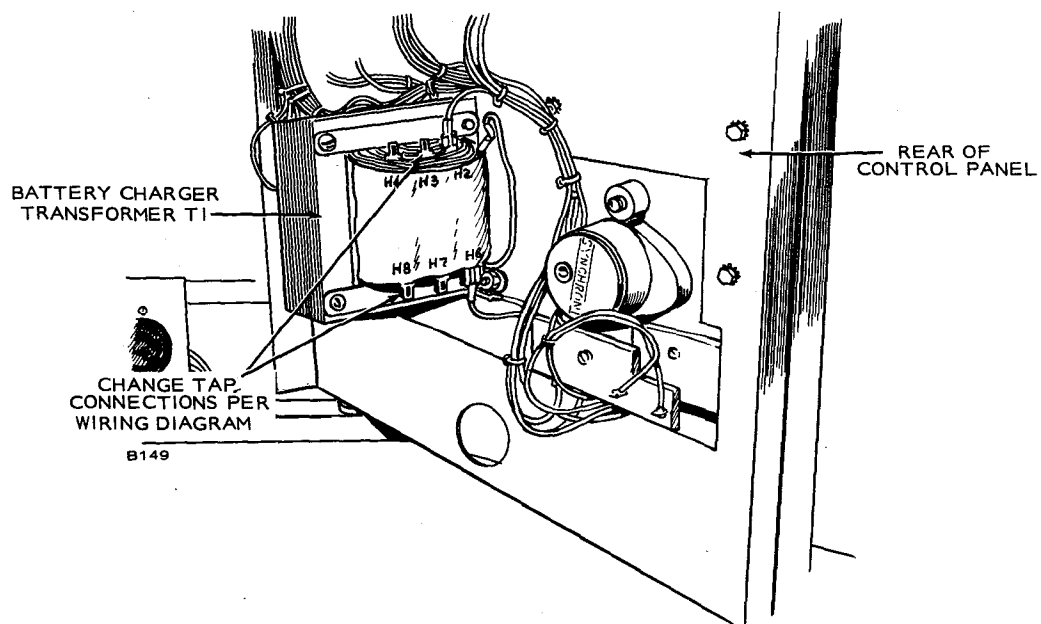

FIGURE 6. BATTERY CHARGER TRANSFORMER AC CONNECTIONS
7. Rewire battery charger transformer T1 so the wire from F1-2 and T1-H5 (COM) go to the appropriate connections on the transformer for the nominal AC voltage (Figure 6). See the wiring diagram for the correct connections.